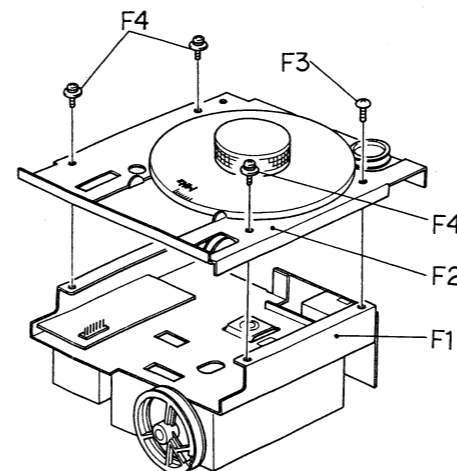

Fig. 5.6
(7) Refer to Fig. 5.6. Mount F2 (dial pulley chassis ass'y) to F1 (FE chassis ass'y) by fastening F3 (screw M3x6 truss head) and F4 (screws M3x6 philips pan head (3A)).